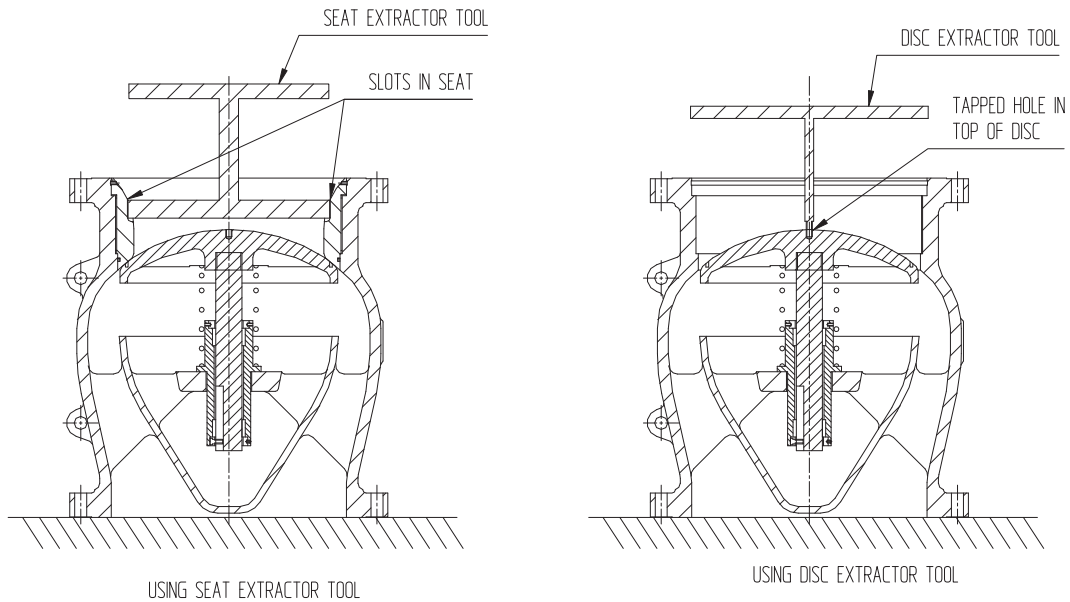

FIGURE 2
(Bevelled per ASME B16.25 figure 2 (a) or 3 (a) depending on wall thickness).
Special Tools: Seat Extractor (See Figure 2)
Disc Extractor (See Figure 2)
a) Remove seat screw (13) and insert the Seat Extractor tool into the slots in the seat to unscrew the Seat (2) counter clockwise (See Figure 2).
b) Remove set screw (12) and screw the Disc Extractor tool into the tapped hole in the top of the disc (3) to withdraw it (see Figure 2).
c) Remove compression springs (8). Then using a suitable hex head socket, remove the guide housing (4) by turning counter clockwise.
d) Remove retaining rings (6) and extract guide bushes (5)